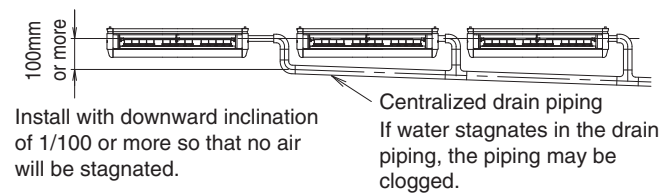

Fig. 28
- To avoid the attached drain hose (1) getting excessive force, do not bend nor twist it. (It may cause water leakage.)
- When conducting the centralized drain piping, follow the instructions in **Fig. 28**. For the diameter of the centralized drain piping, select the diameter matching the capacity of the indoor unit to be connected. (Refer to the technical document)